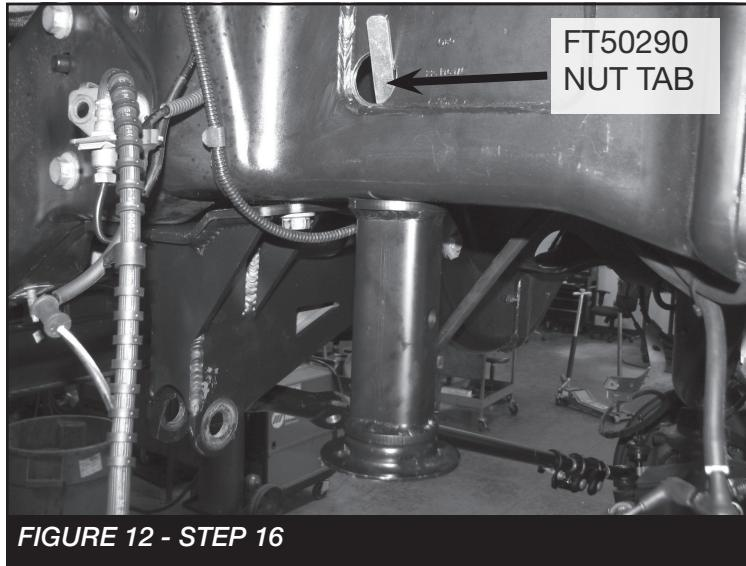

FIGURE 12 - STEP 16
16. Using FT50290 (Nut Tab) and 1/2 X 1-1/2" bolt and washer. Mount the new bump stop extension to the frame. Route the Nut tab through the 1-1/4" hole that was made in Step 11. Torque to 127 ft-lbs. SEE FIGURE 12